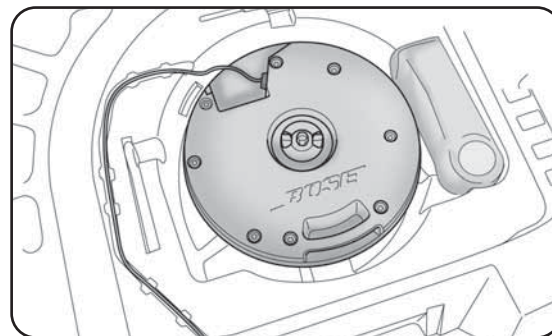

fig. 12
Subwoofer and "Fix&Go Automatic Kit" fig. 12
- take the automatic Fix&Go Automatic kit located on the right side of the luggage compartment (fig. 12);